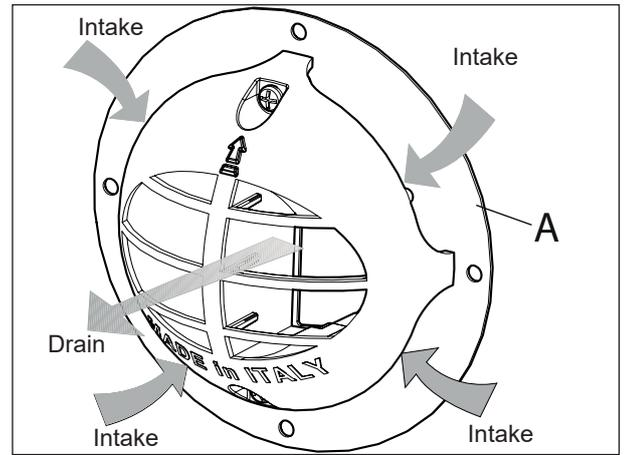

Fig. 11
The air necessary to combustion is sucked from the fissures in contact with the outer wall (Fig. 11), which must therefore be left free by avoiding the use of cement or any kind of sealant.
Install the supplied stainless steel disc (A) (Fig. 11).